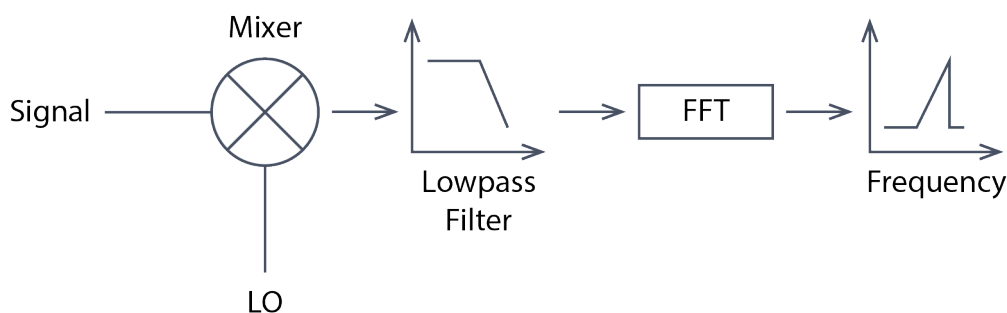

Figure 4. Signal processing flow of the Moku Spectrum Analyzer.
This limits the FFT-based approach in characterizing finer details at high frequencies. To overcome the limitation of the FFT based approach, Moku Spectrum Analyzer digitally mixes the signal of interest with a local oscillator (LO) to bring the frequency of interest to near DC range, as shown in Figure 4.